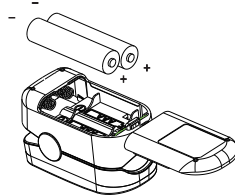

Figure3. Battery Installation
- Push the battery cover horizontally along the arrow shown as figure 3.